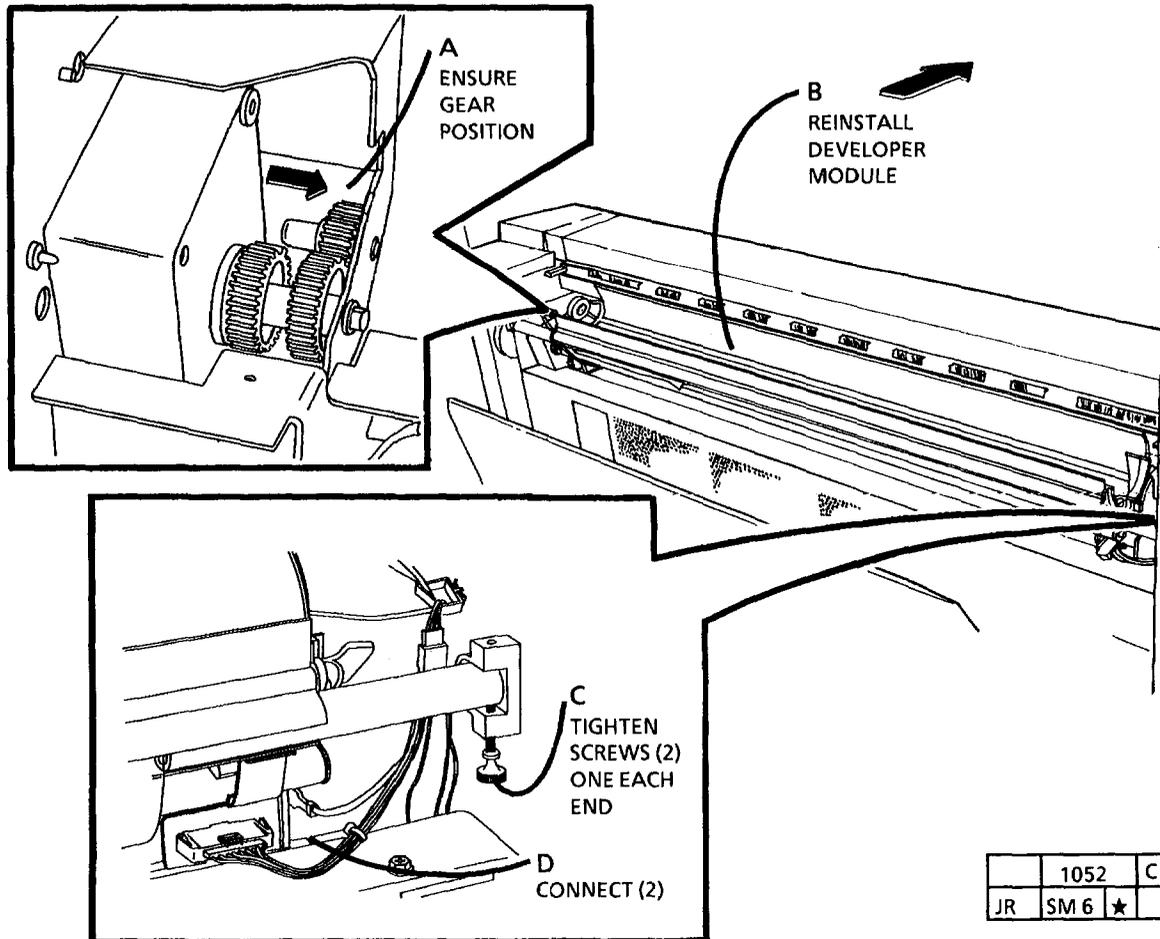

Figure 7. Reinstall the Developer Module
15. (FIGURE 7): REINSTALL THE DEVELOPER MODULE.